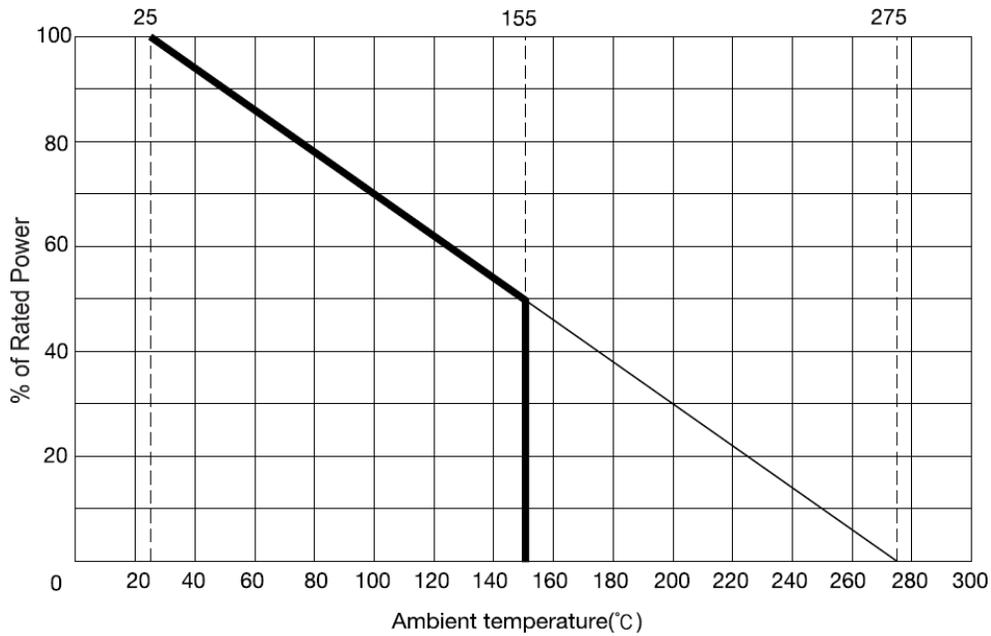

Figure 18. De-rating Curve Example of Shunt Resistor (from RARA Elec.)
- Modulation Index (MI):  $0.9$
- Power Factor (PF):  $0.8$
- De-rating Ration of Shunt Resistor at  $T_{SHUNT} = 100\text{ }^\circ\text{C}$ :  $70\%$  (refer to Figure 18)